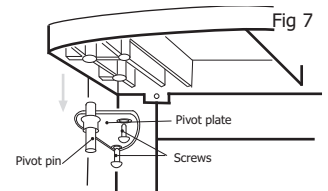

Fig 7
- Unscrew the pivot plate from the underside of the cabinet top (Figure 7). Transfer the pivot plate to the mounting holes in the opposite corner of the underside of the cabinet top and fasten it in place.